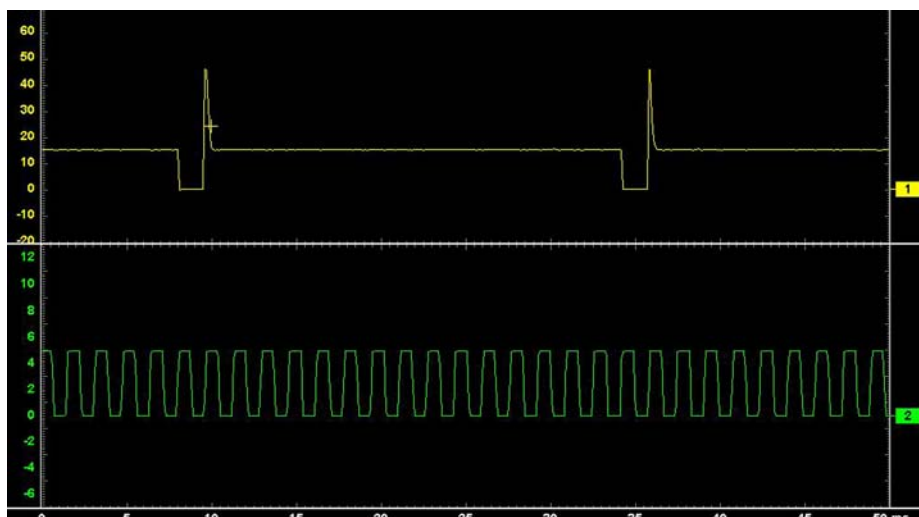
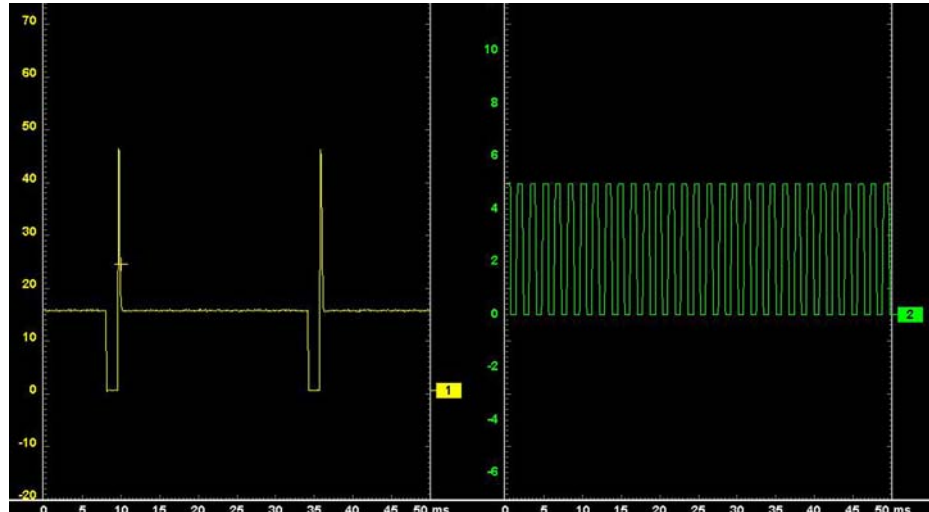

Figure 7-20 Sample 2 Windows horizontal display
Figure 7-21 Sample 2 Windows vertical display
- **2 windows**—shows two separate traces in two ways: horizontal, one below another (Figure 7-20) or vertical, side-by-side (Figure 7-21)